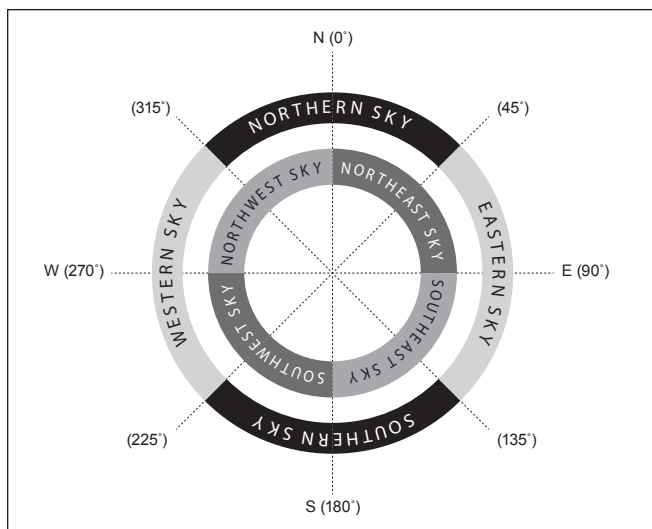

Figure 2. Directional regions of the sky used in the “Brightest Star” alignment method.
2. The hand controller will prompt you to “Select Region.” Referring to **Figure 2**, choose the region that corresponds with where you see the brightest star in the sky. It may be helpful to have a compass for reference during this process. There are eight overlapping regions to choose from, each covers a 90-degree span in azimuth. The direction you choose will only affect your alignment star selection; you will still be able to choose objects to view across the entire sky once the alignment is complete.